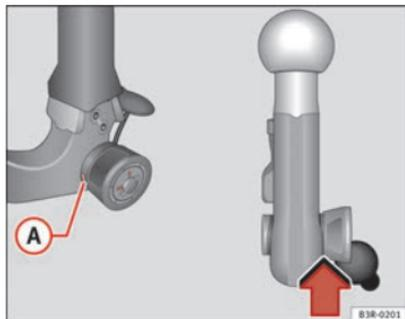

Fig. 161 Removable towing bracket: Safety check
- Check that the green marking **A** ⇒ Fig. 161 on the knob is inside the black zone marked on the ball joint.